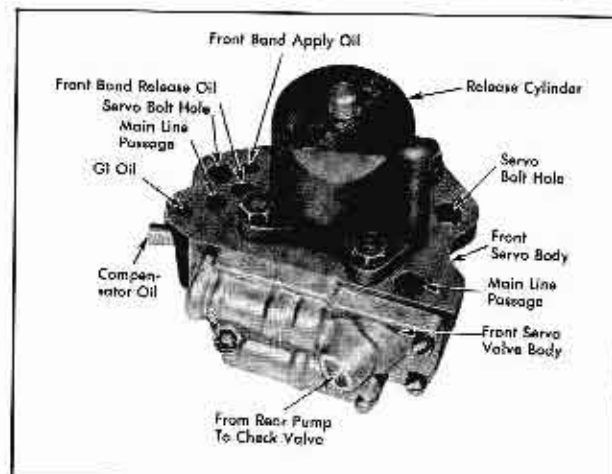

Fig. 14-58 Front Servo Oil Passages
1. Check mating machined surfaces of servo body, release cylinder and front servo valve body for scores and obstructed or interconnected passages, Fig. 14-58.